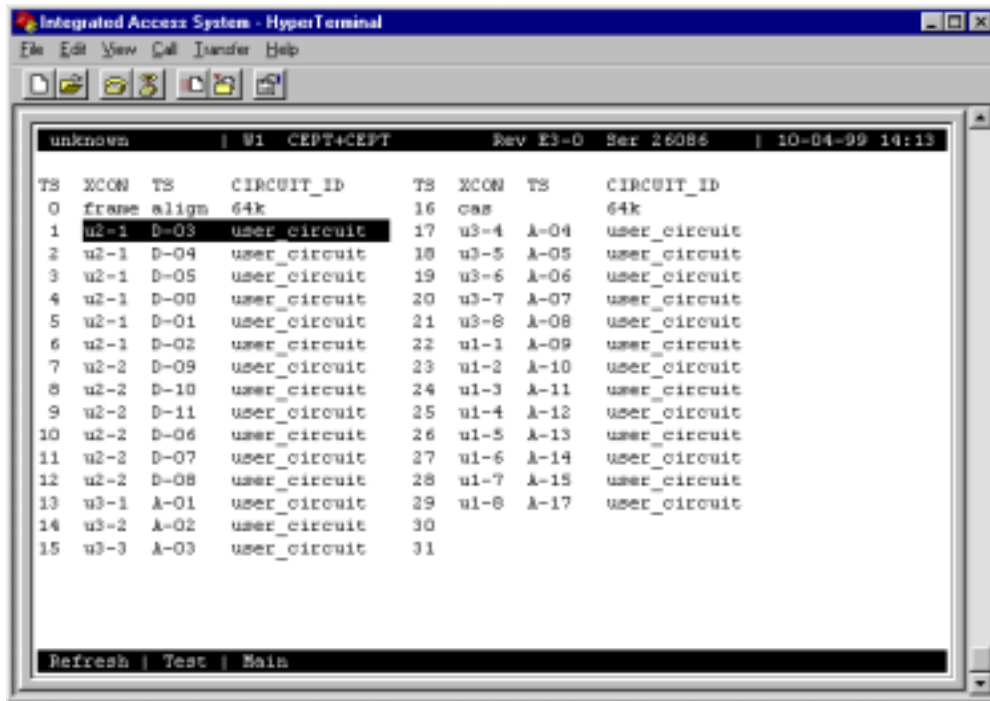

Figure 4-61. Typical Time Slot Screen in E1 Operation
2. Type “x” (**Xcon**) to bring up the time slot screen (see Figure 4-60 for T1 operation and Figure 4-61 for E1 operation).
For E1 transmission (Figure 4-61), time slot 0 and 16 are not available for assignment on either the HSU table or the voice card time slots. Like T1 operation in **d/i** mode, unspecified time slots are **automatically** assigned to corresponding slots on the other WAN port on the same card.